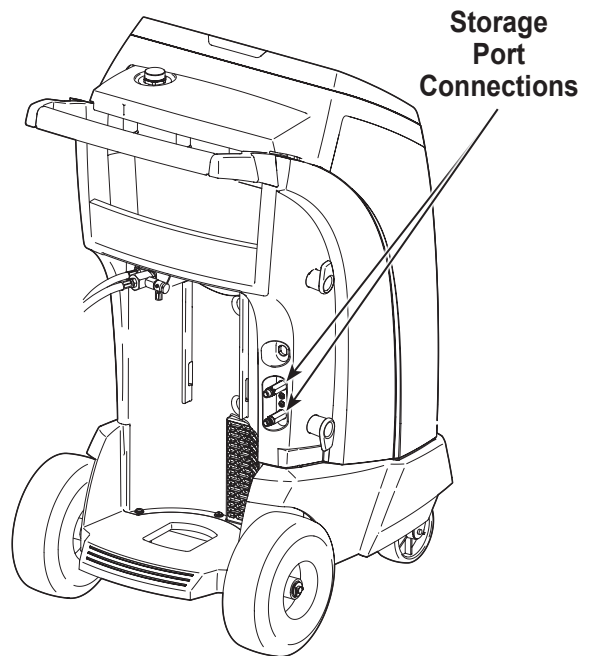

Figure 9
1. Connect the service hoses to the machine's storage port connections (shown in Figure 9).